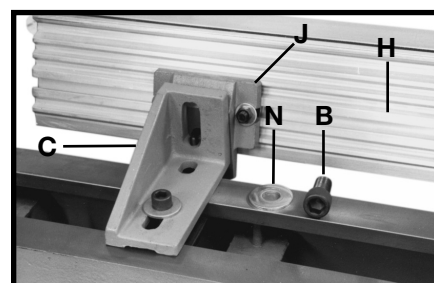
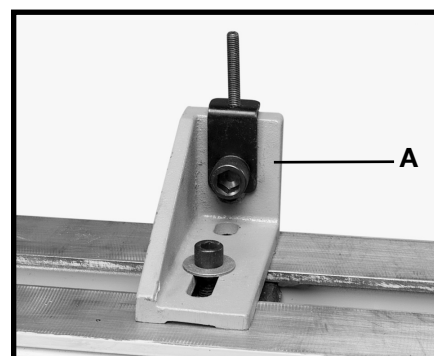

Fig. 25
Fig. 27B
5. While carefully supporting the duplicator rail (H) Fig. 25 at both ends, slide the mounting pad (J) along the duplicator rail until the tapped hole in mounting pad (J) lines up with slot in mounting bracket (C). Fasten with M16 x 35mm hex socket head screw (M) and 16mm x 41mm flat washer (N). **NOTE: For 46-715 or 46-745, use bracket (A) Fig. 27B with M8 x 55mm socket head set screw without washer.**